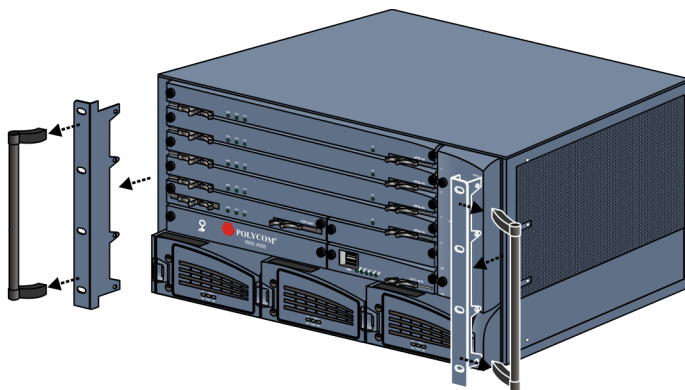

Figure 1-9 Removing and attaching 19" and 23" brackets
- 1 Mounting the RMX 4000 on a 23" rack requires that first the handles and then the 19" brackets be removed from the MCU. This is shown in Figure 1-9.